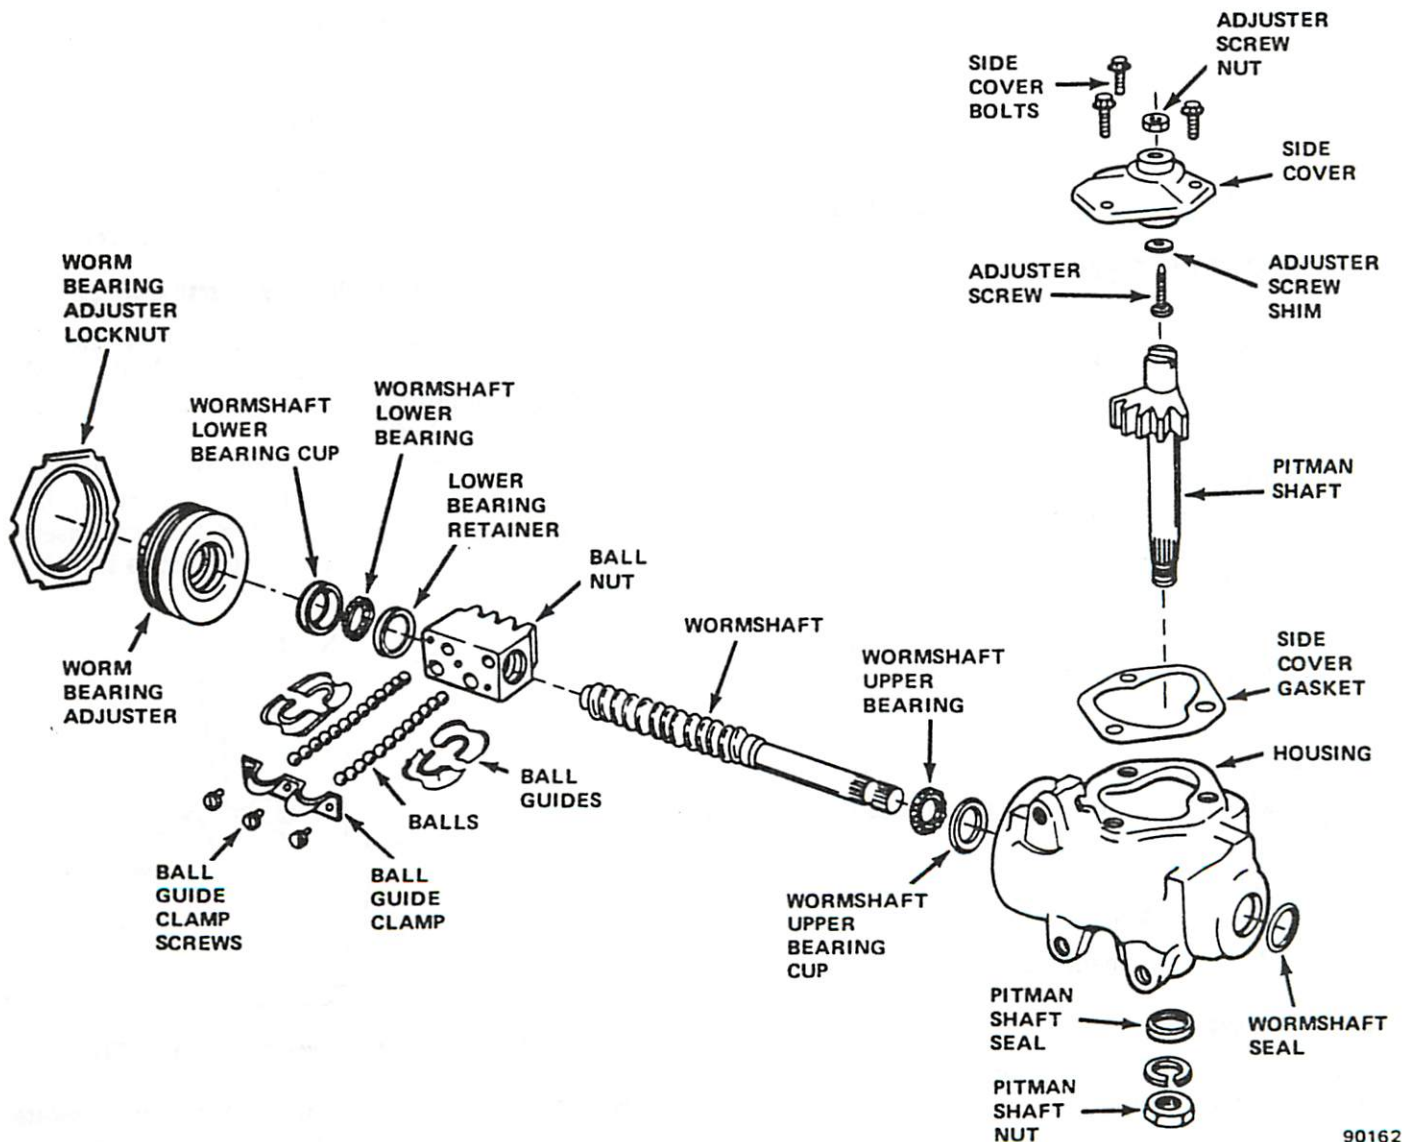

Fig. 2K-4 Manual Steering Gear
(4) Remove side cover attaching bolts.
(5) Turn pitman shaft adjuster screw clockwise to unthread side cover from screw and remove side cover and gasket.
(6) Slide adjuster screw and shim out of T-slot in pitman shaft (fig. 2K-4). Retain shim and screw for end play measurement at assembly.